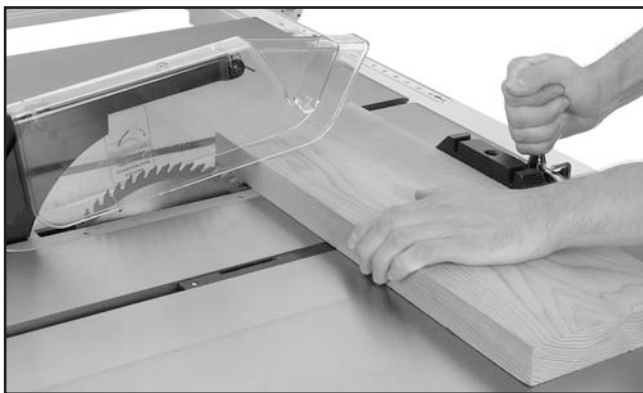

Figure 47. Typical crosscutting operation.
7. Hold the workpiece firmly against the face of the miter gauge (as shown in **Figure 47**), and ease it through the blade until the workpiece is completely past the saw blade.